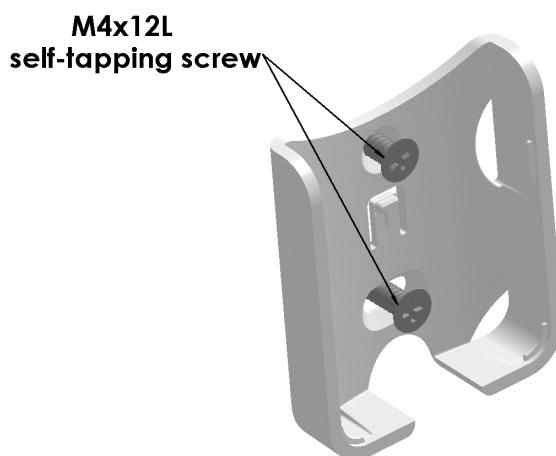

Fig. 5 Installation of Remote Controller mounting bracket
1. Take off mounting bracket from the Remote Controller. Secure mounting bracket on selected location with the two (2) M4 12mm length self-tapping screws that come with the product. See Fig.5.